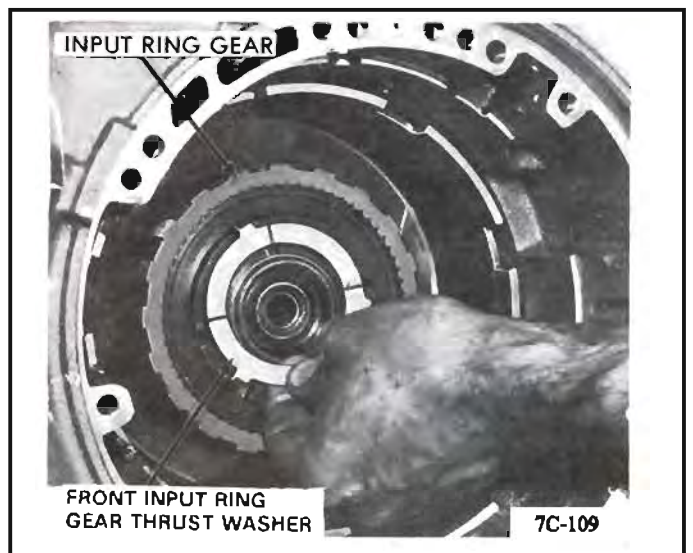

Figure 90 Input Ring Gear Thrust Washer
1. Install input ring gear. *See Figure 90.*
2. Install forward clutch housing to input ring gear front thrust washer. *See Figure 90.* Washer has three (3) tangs.